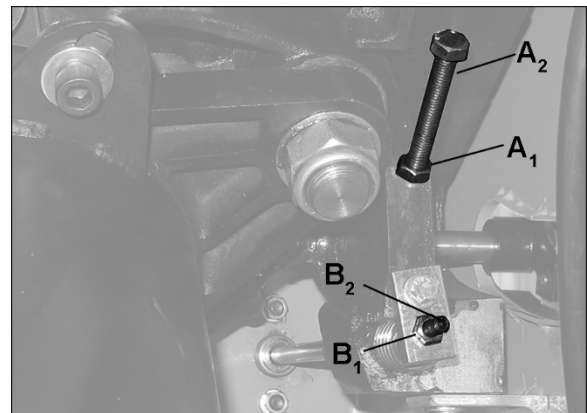

Figure 20
5. If adjustment is required, loosen nut (A1, Figure 20) on 90° stop screw (A2) with a 12mm wrench, and turn screw to proper height. Verify setting and retighten nut.